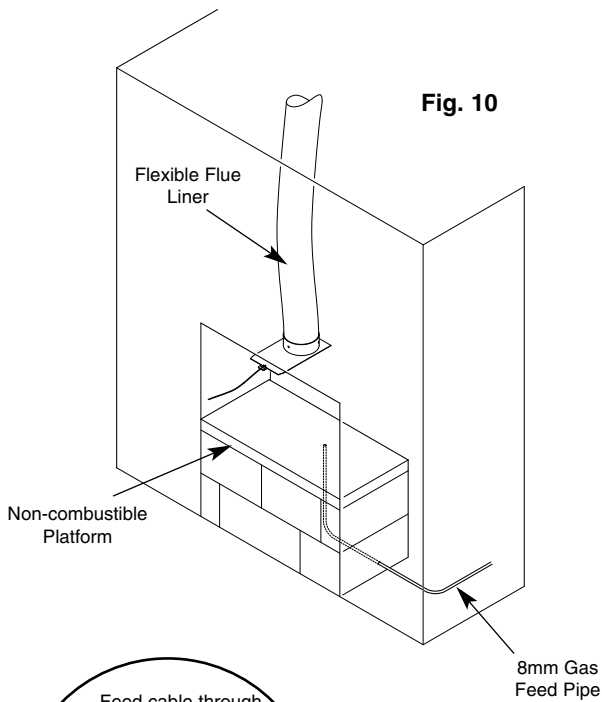

Fig. 10
2. Construct a suitable non-combustible platform large enough to sit the fire box on ensuring the top surface is level with the mark on the wall. If the depth of chimney breast does not facilitate a rear gas connection, allowance must be made for the 8mm gas feed pipe to enter the base of the fire box through the platform (Fig. 10).